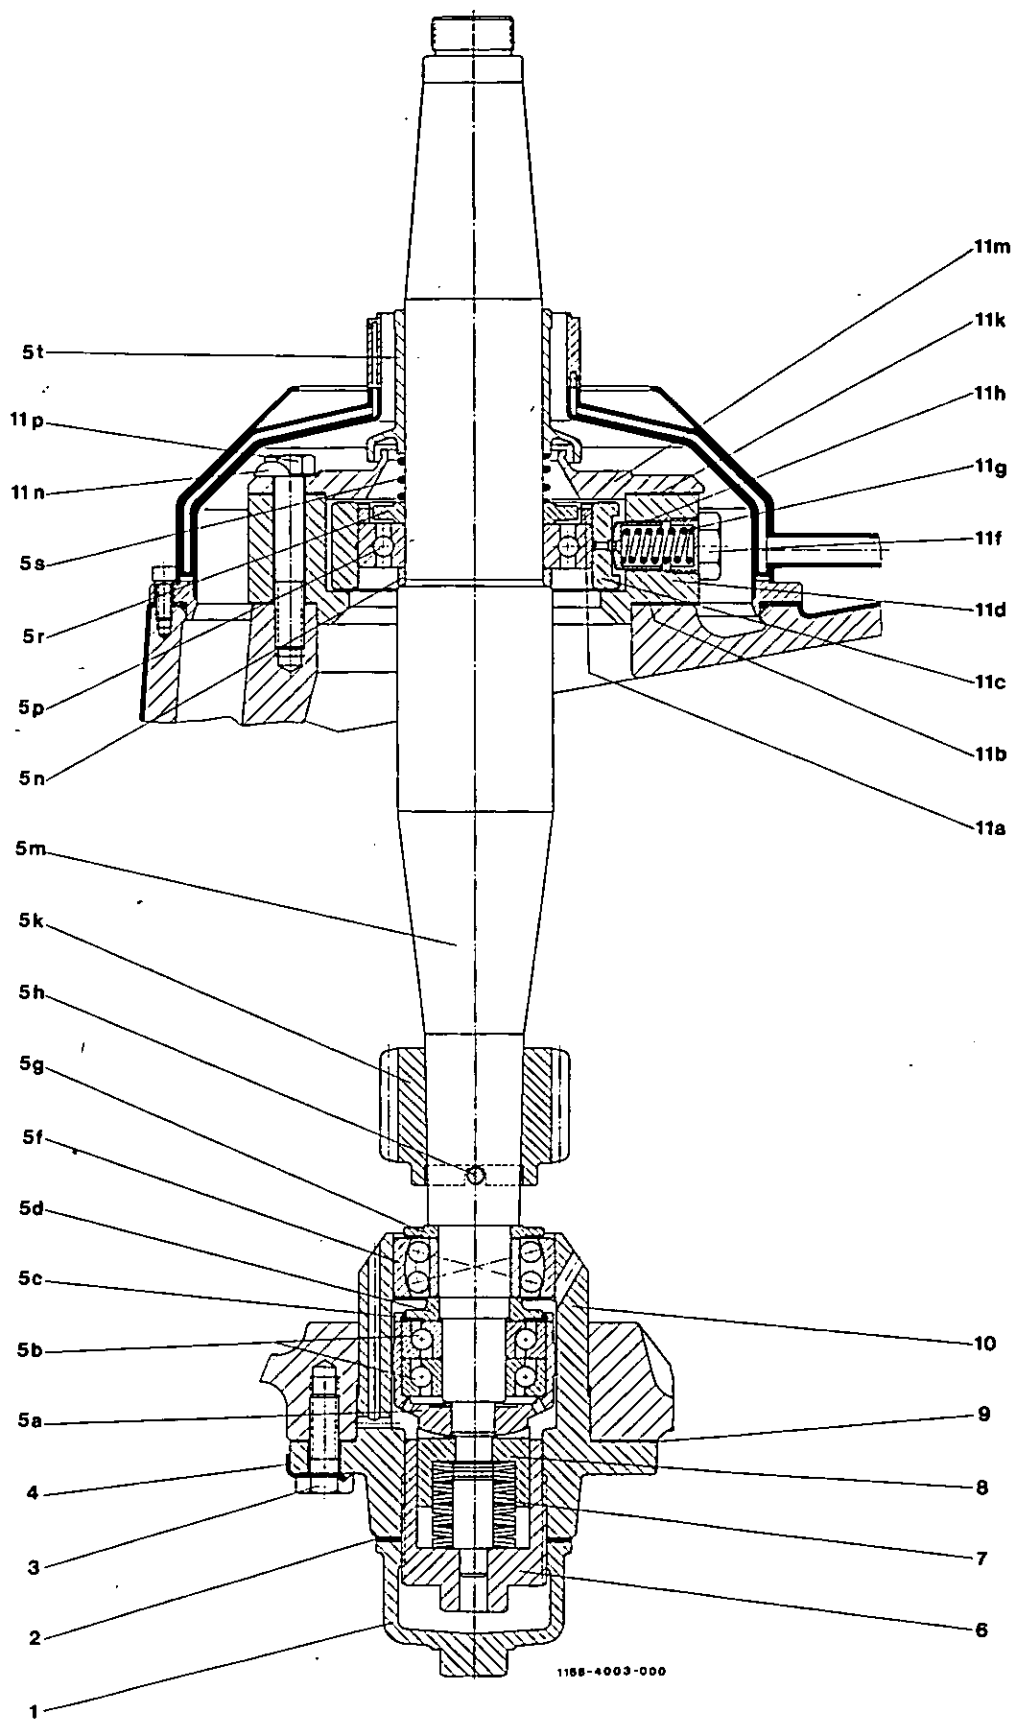

Fig. 14
** This part is included in worm wheel assembly with clamp plates, item 10, but it is also available as separate item. When the worm wheel needs replacement, the worm 5k, fig. 14, should be replaced as well (see section 8.5, No.4).